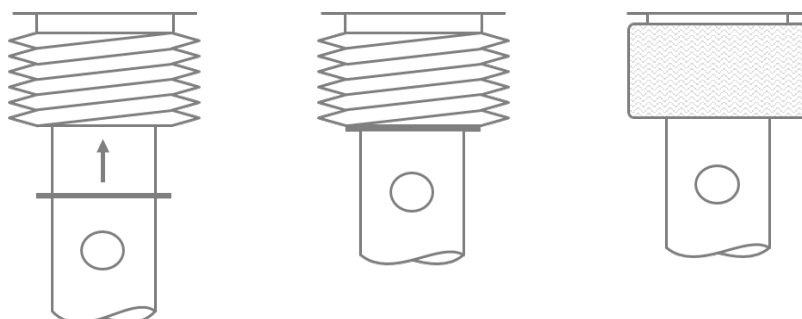

Figure 3 - Spindle Hub
- Insert the spindle into the hub as shown in Figure 3 below. Note that there are only two rotational positions in which the spindle can be correctly inserted.